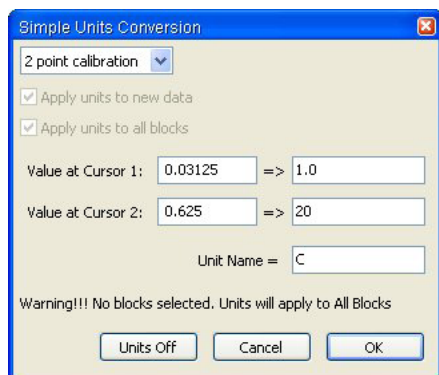

Fig. 40—(Right) Simple Units Conversion dialog box: temperature conversion
- For prescaling, click the **Units** button (on the right) for the desired channel. The **Simple Units Conversion** dialog box appears (Fig. 40). Use the two-point calibration and verify that the **Apply units to all blocks** check box is selected.